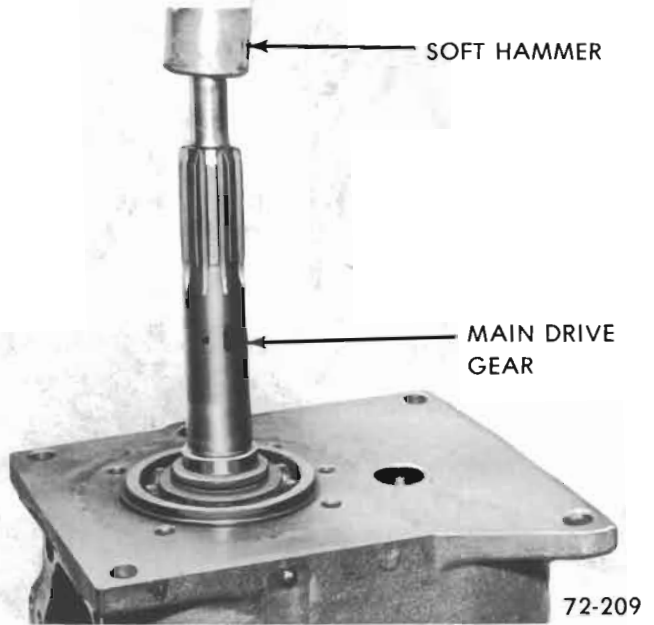

Figure 72-78 - Removing Front Bearing
19. If it is necessary to remove front main bearing, use a soft hammer, tap main drive gear down through bearing as shown in Figure 72-78.